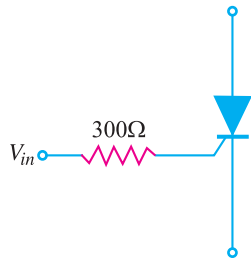

Fig. 20.30
5. In Fig. 20.30, what value of input voltage would be required to cause the SCR to break down if the gate current required for firing is 10 mA ? [3.7V]